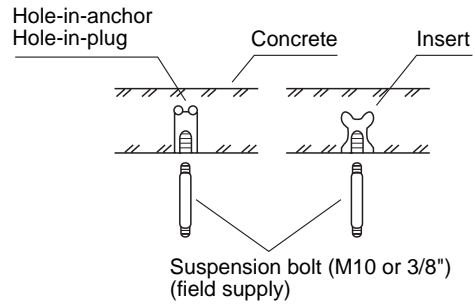

Fig. 3-83
- Insert bolt anchors as shown in Fig. 3-83 or
- (2) Screw in the suspension bolts allowing them to protrude from the ceiling as shown in Fig. 3-83. (Cut the ceiling material, if necessary.)